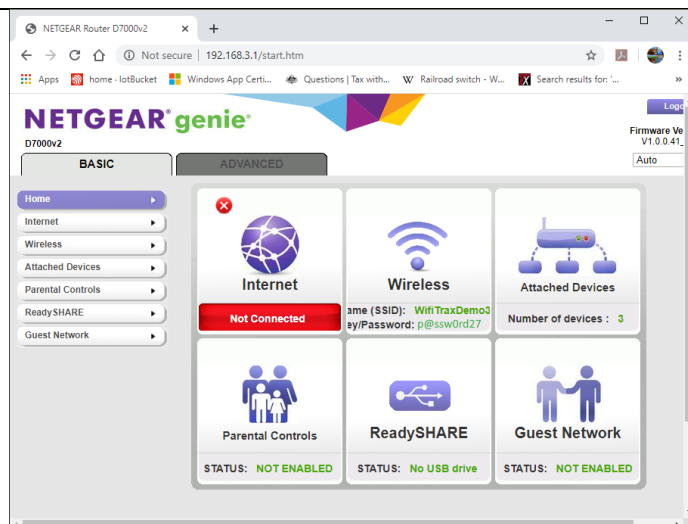

Figure 41 A typical router admin page
- (5) Once you have given the credentials, you will see the admin page. A typical one is shown in Figure 41. Find the “Attached Devices” option and click on it.